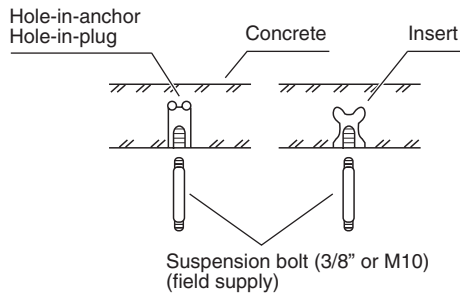

Fig. 3-3
- Insert suspension bolts (Fig. 3-3)
- (2) Screw in the suspension bolts allowing them to protrude from the ceiling (Fig. 3-3). (Cut the ceiling material, if necessary.)